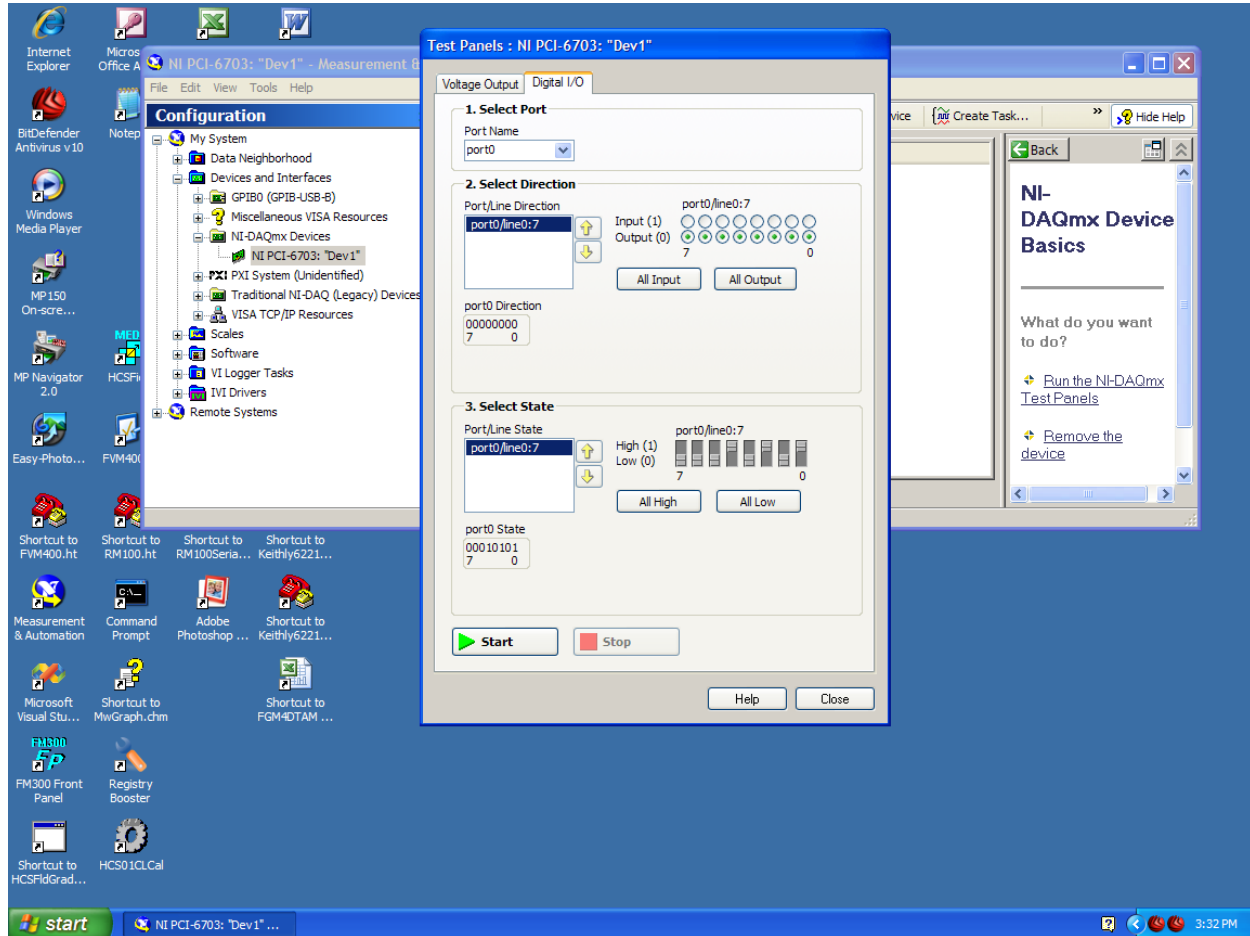

Figure 24 Measurement and Automation digital output display.
7. Select the **Digital I/O** tab of the Test Panel (see Fig. 24 below) and set **Port Line Direction** to output.